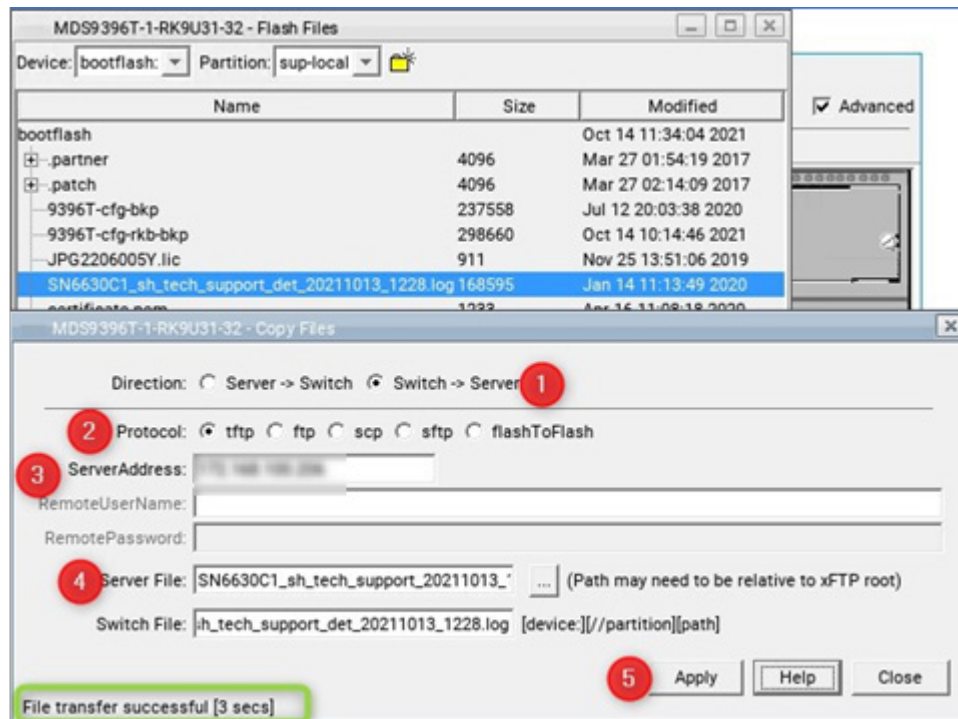

Figure 23. Copy file from bootflash to server — DCNM web
Step 7: Select the direction as **Switch > Server, protocol** you want to use to copy the file from the switch, provide server IP address and credentials, as well as the destination file name. (see Figure 23)